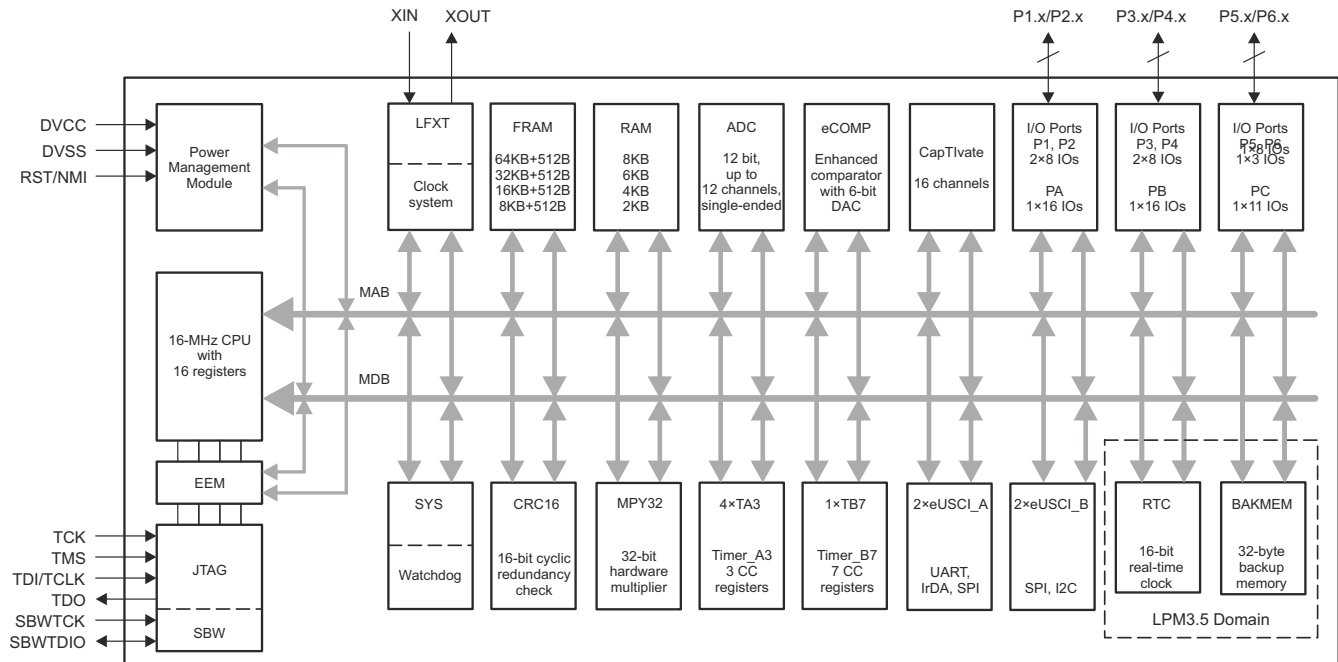

Figure 4-1. Functional Block Diagram
Figure 4-1 shows the functional block diagram.
- Added memory sizes for MSP430FR2673 and MSP430FR2672 in Figure 4-1, *Functional Block Diagram* 4